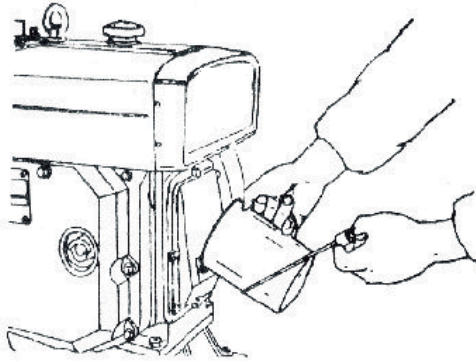
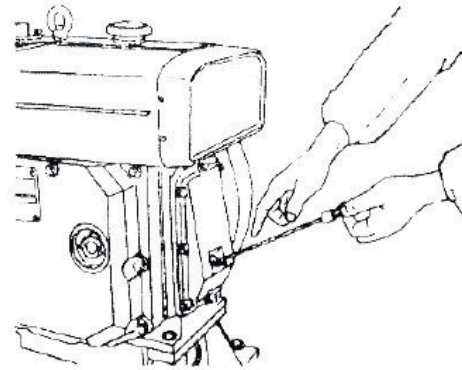

Fig. 1 Colocar óleo no cárter
Fig. 2 Medir o nível de óleo no cárter com a vareta de medição
- The oil should be stored in a clean, sealed container to prevent dirt from entering. Before adding the oil, remove the dipstick and put clean oil into the crankcase (Fig.1). The amount of oil added is about 3.5 liters so that the oil level in the sump lies between the two lines marked on the dipstick (Fig. 2). See purchased model